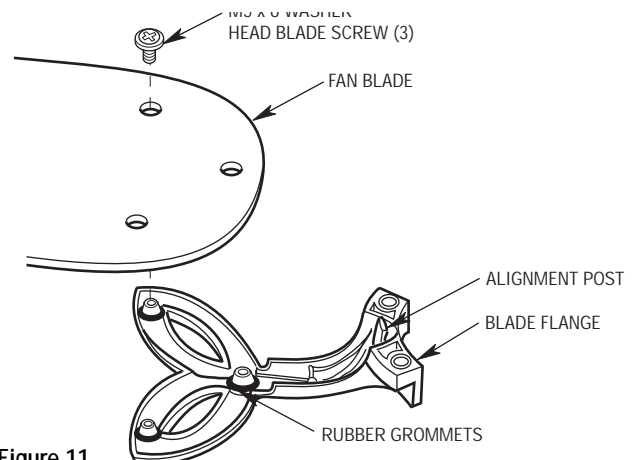
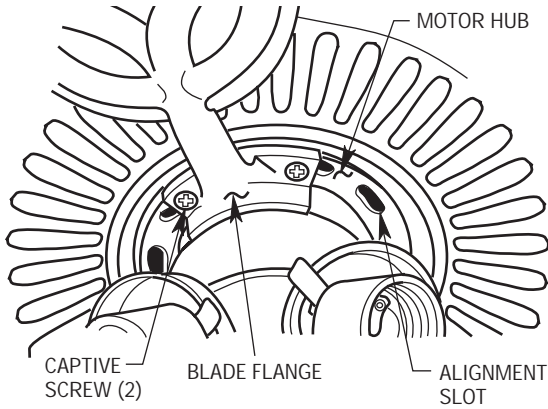

Figure 11
Figure 12
1. Make sure the three rubber grommets are firmly seated on each of the blade flanges. Then mount the blade flanges to the fan blades using three M5 x 6 washer head blade screws per blade (Figure 11).
- 2. Mount one blade assembly to the motor hub by mating the alignment post (Figure 11) of the flange with one of the alignment slots in the motor hub (Figure 12). Then tighten the two captive screws in the flange to secure the flange to the motor hub. Repeat this procedure for the other four blade assemblies. Make sure all screws are tightened.